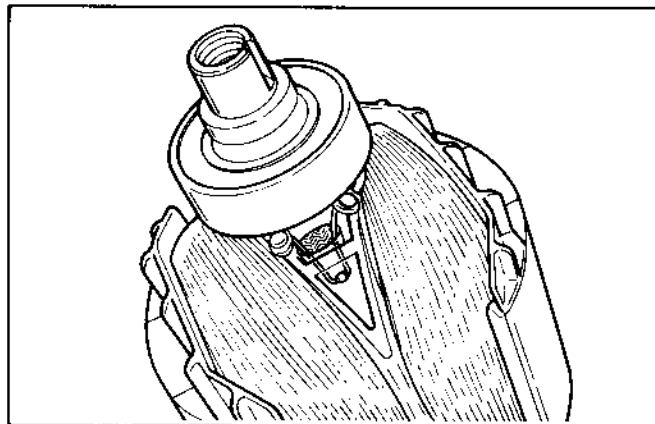

Fig. 11-3
- Unsolder the coil ends from the terminals on the rotor. (See Fig. 11-3.)